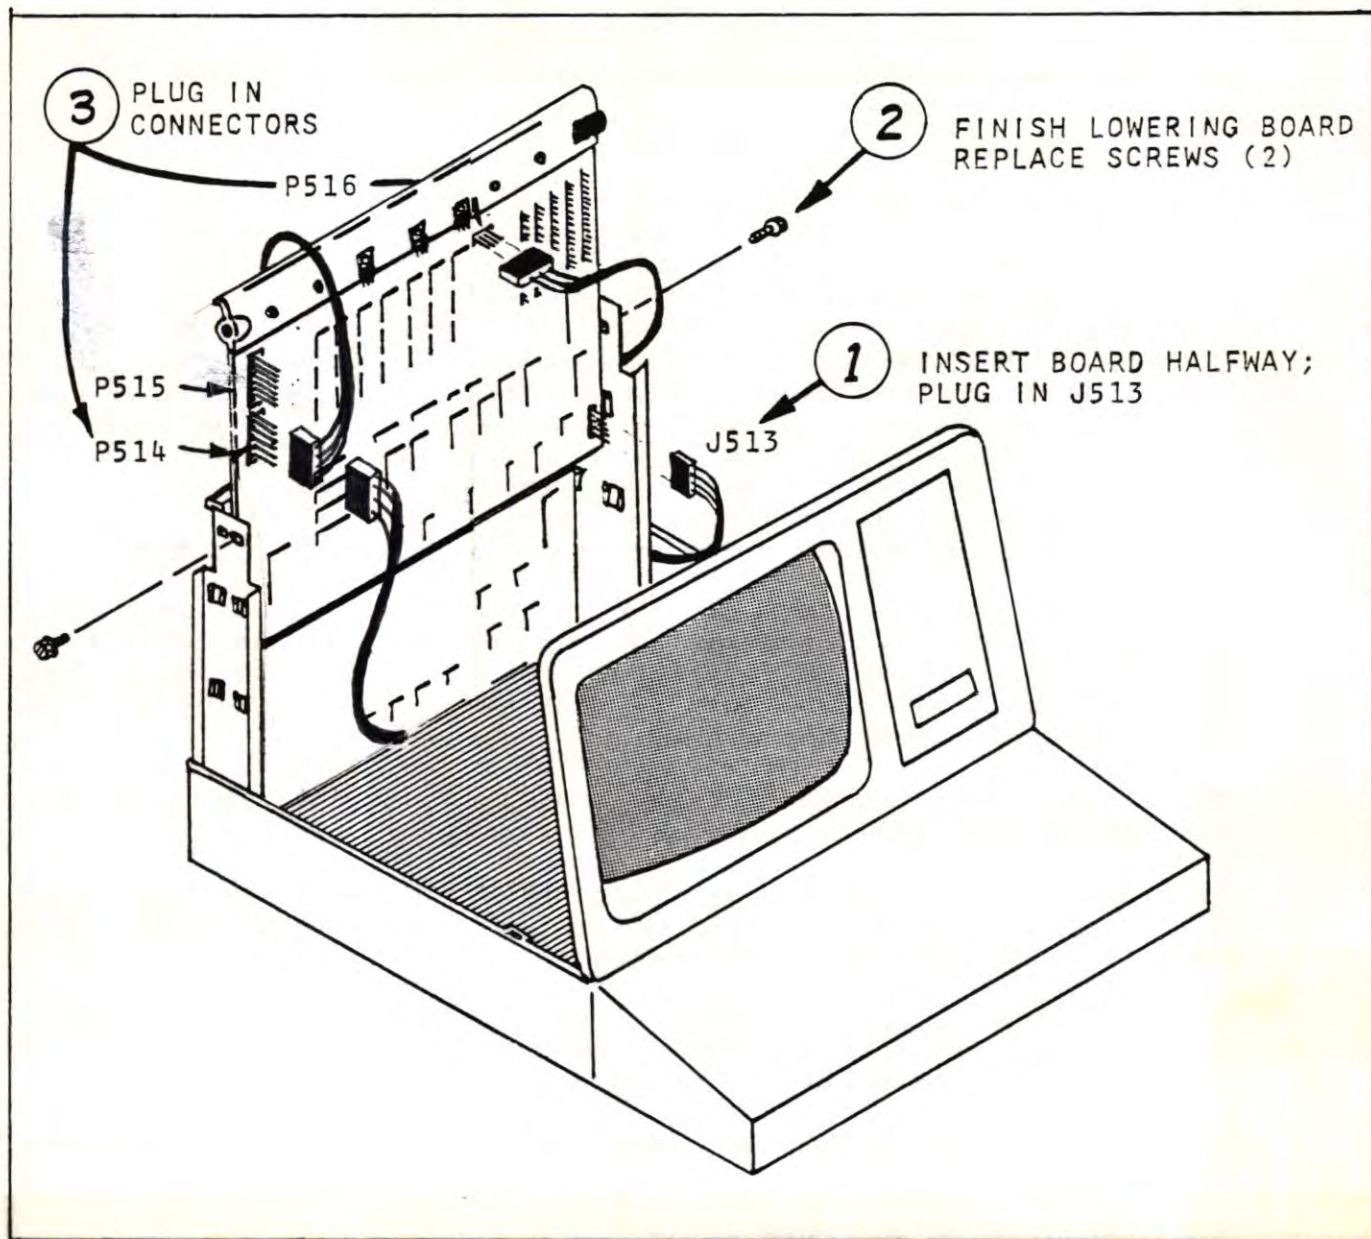

FIG. 1-14 INSTALLING THE H-1000 IN NEWER H/Z89-Aa
- () Refer to fig. 1-14, and slide the H-1000 about halfway into the card guides. Locate connector J513 (at the end of the cable from the Terminal Logic Board), and plug it into P513 on the H-1000 (in the lower right-hand corner). Be sure that the slotted side of J513 faces toward the right.